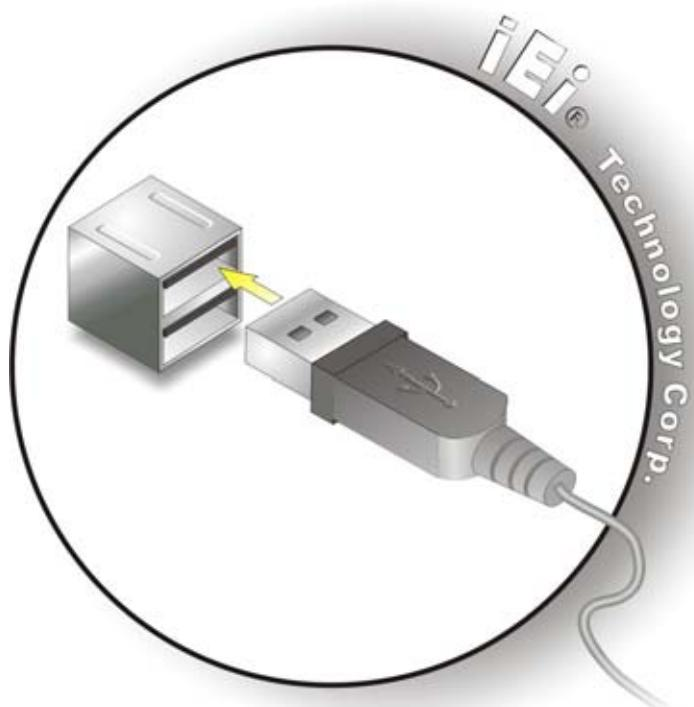

Figure 5-15: USB Connector
Step 2: Insert a USB Series "A" plug. Insert the USB Series "A" plug of a device into the USB Series "A" receptacle on the external peripheral interface. See **Figure 5-15.**